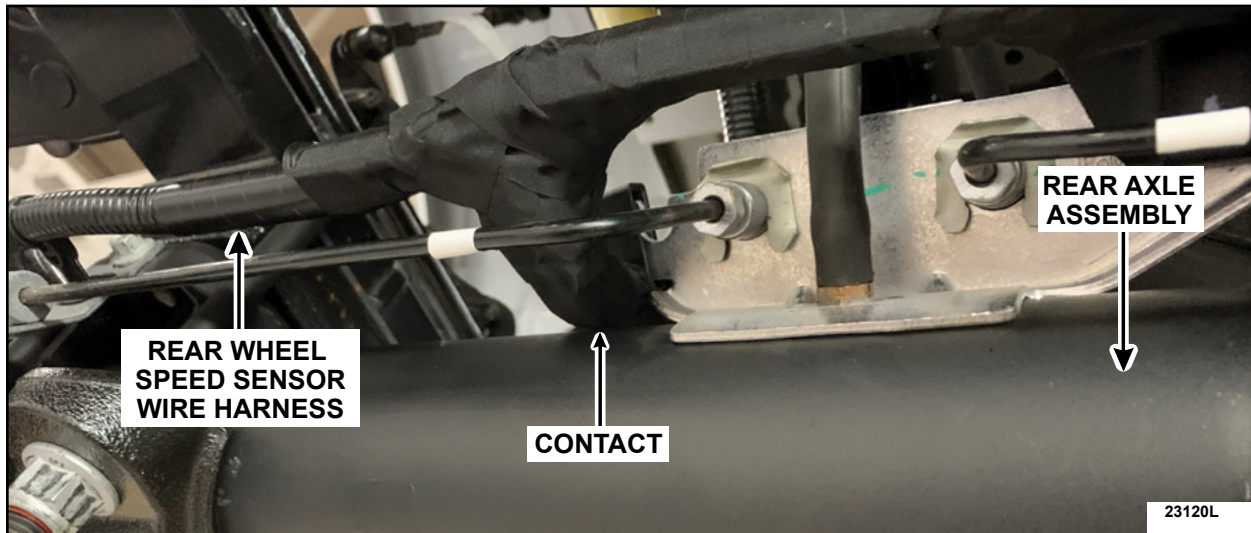

FIGURE 7
8. Is the rear wheel speed wire harness tape near the contact location worn completely through to the harness? See Figure 7.